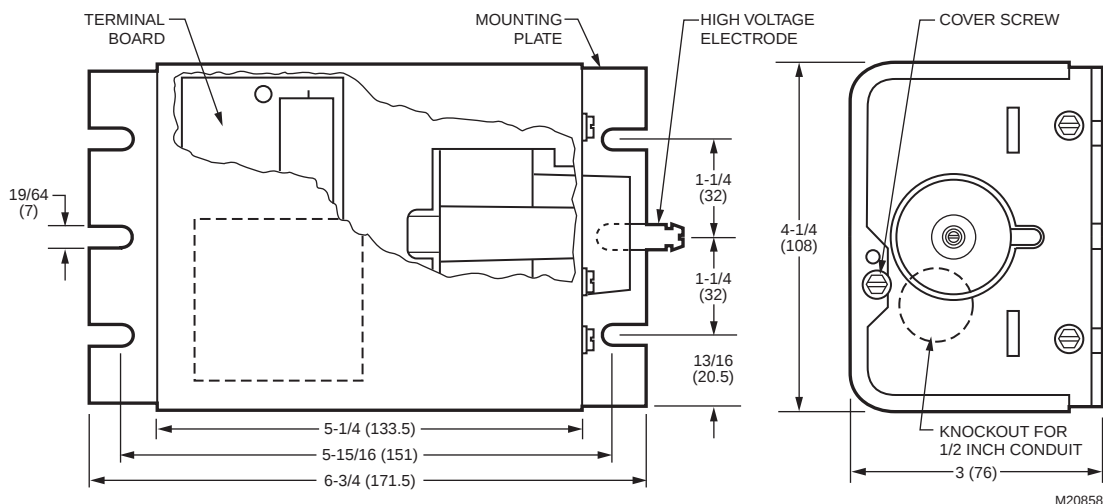

Fig. 1. Q624A Solid State Spark Generator dimensions in in. (mm).
Dimensions: See Fig. 1.
1. Loosen the cover screw (Fig. 1) and remove the cover.
2. Insert two leads (NEC Class 1) through the 1/2 in. (13 mm) conduit knockout (Fig. 1) and connect them to the screw terminals on the terminal board, and to the terminal strip or wiring subbase of the flame safeguard control (see Table 1 and Fig. 3 or 4).
4. Connect the high voltage electrode (Fig. 1) to the ignition electrode on the pilot burner, using the appropriate Ignition Cable Assembly or Ignition Cable (see Accessories in the Specifications section).